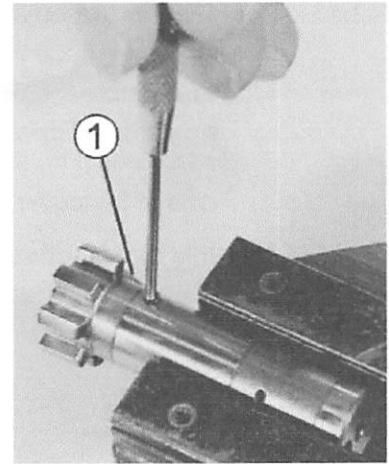

Fig. 50 Replacement of extractor and/or extractor spring
- ⇒ Clamp the bolt head so that the extractor (50/1) is pressed against the bolt head (Fig. 50).